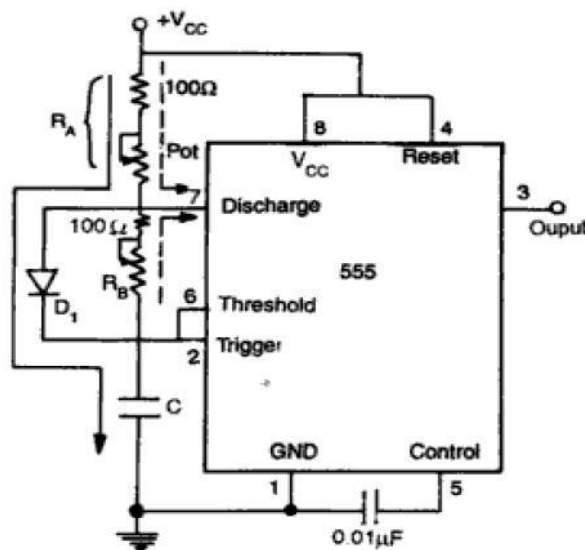

Fig. 8.19 Adjustable duty cycle rectangular wave generator
- An alternate circuit which will allow duty cycle to be set at practically any level is shown in Figure 8.19.